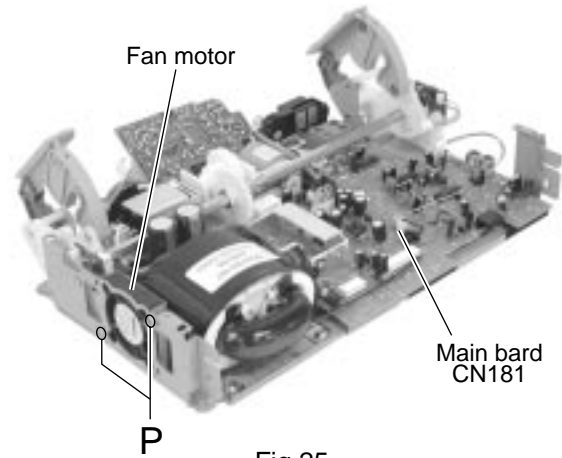

Fig.25
■ Removing the fan motor assembly (See Fig.25 and 26)